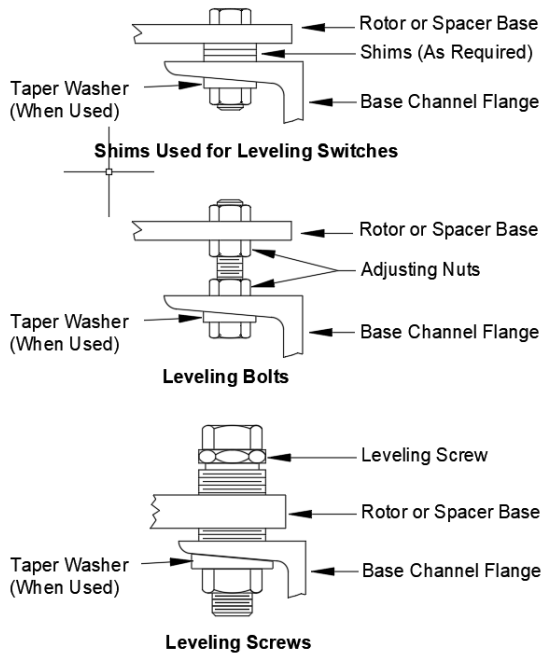

Fig. 1 Types of Leveling Devices
Check bases to make sure that the spacers and rotor bearing tops are square and level. The tops of the two supports on the hinge end must be exactly the same height. If necessary, make adjustments or shim. Shims, leveling screws, and adjusting nuts are shown in Fig. 1 and are explained in step 3.
Lower voltage switches 8.25 thru 72.5kV generally do not require insulator stack alignment. Where required, the insulator stacks of switches thru 242kV can be aligned using open-end shims or leveling screws and/or adjusting nuts (Fig. 1) if supplied (optional).
- If optional leveling screws and/or adjusting nuts have been supplied, as shown in Fig. 1, adjust the leveling screw and/or adjusting nut to align the insulator stacks. Loosen all hardware before jacking to prevent binding.